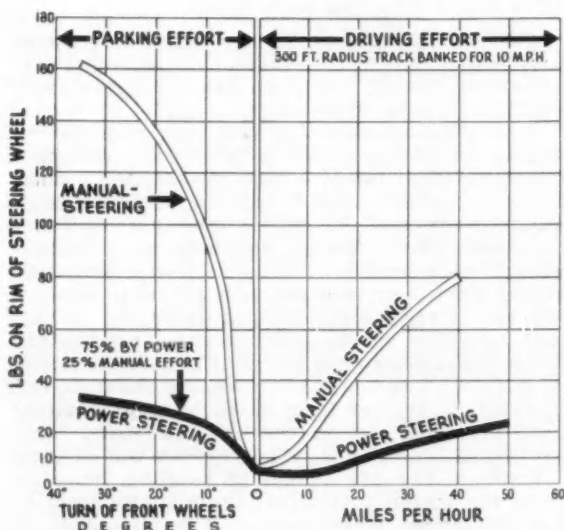

Fig. 1—Power steering can take a lot of the steering load off a truck driver
**T**O really make truck driving easier, a power-steering system must do more than just reduce the physical effort required to steer the vehicle. (See Fig. 1.) It must also give the absolute maximum in responsiveness and natural operation. For without these things, it may be more difficult (mentally, at least) to handle a power-steered truck than a manually steered one.